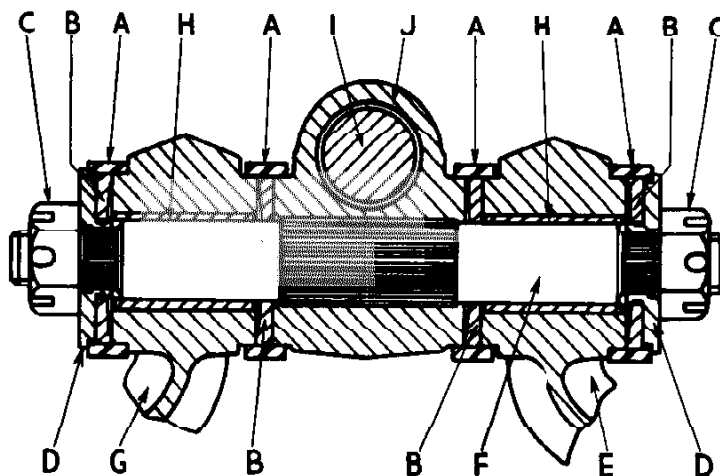

Figure M10.
SHACKLE PIN END FLOAT. Fig. M10.
2. CHECKING AND SETTING END FLOAT Figs. M10 and M11.